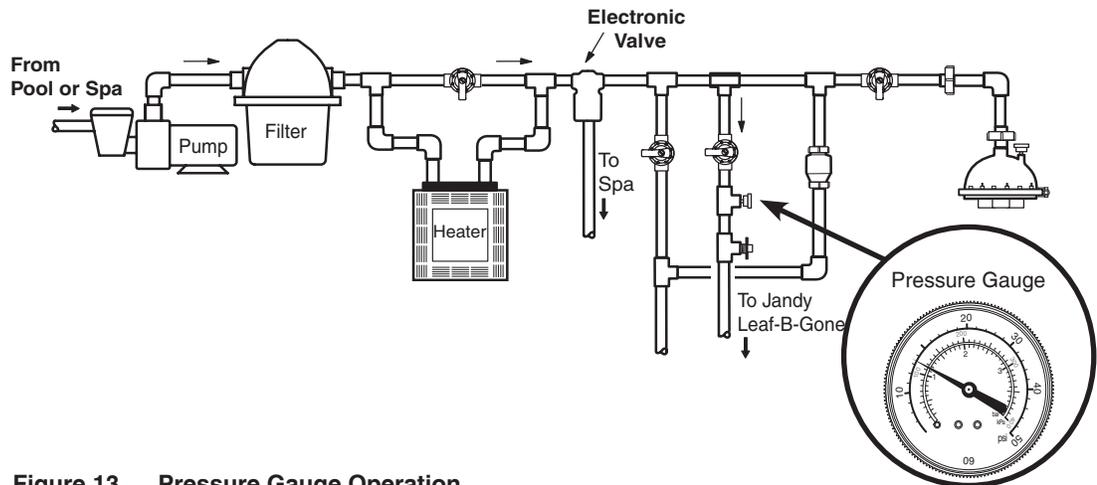

Figure 13. Pressure Gauge Operation
- Locate the pressure gauge on the Jandy Leaf-B-Gone supply line between the 2-way valve and the accessible tee (see Figure 13).